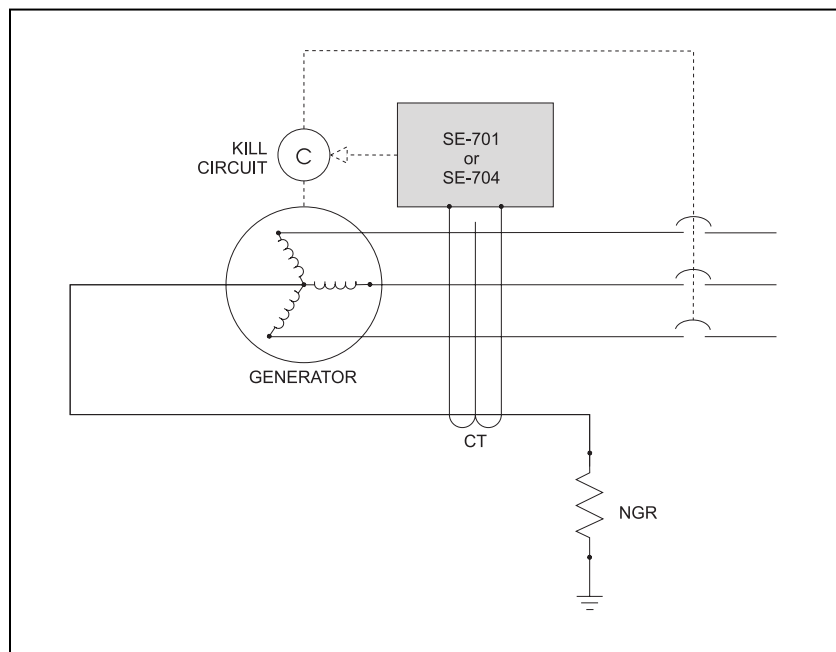

FIGURE 1: Differential Self-Balancing Ground-Overcurrent Protection Circuit
To detect a ground fault in the generator windings, phase and neutral leads are passed through a current-transformer (CT) window positioned close to the generator output terminals. As shown in Fig. 1. The CT is connected to a protective relay such as a Startco SE-701-series Ground-Fault Monitor.